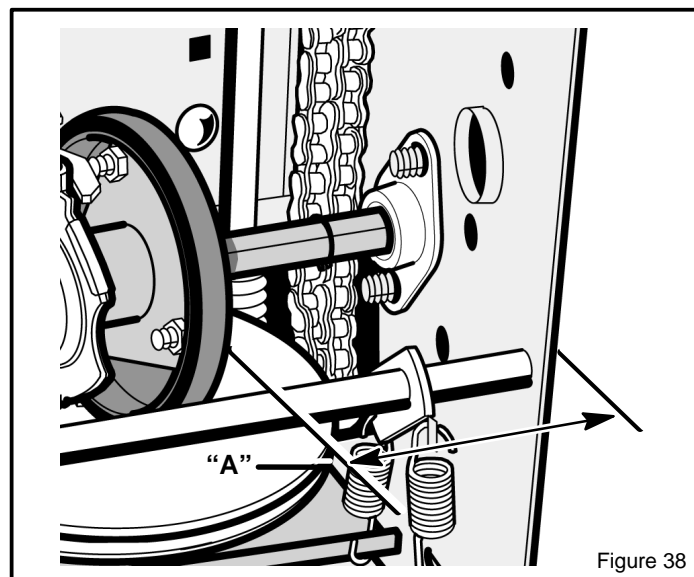

Figure 38
6. Note the position of the **friction wheel** (see Figure 38). The correct distance "A" from the right side of the **friction wheel** to the outside of the motorbox is as follows:
3. Move the **friction wheel** to the correct position (see Figure 38).